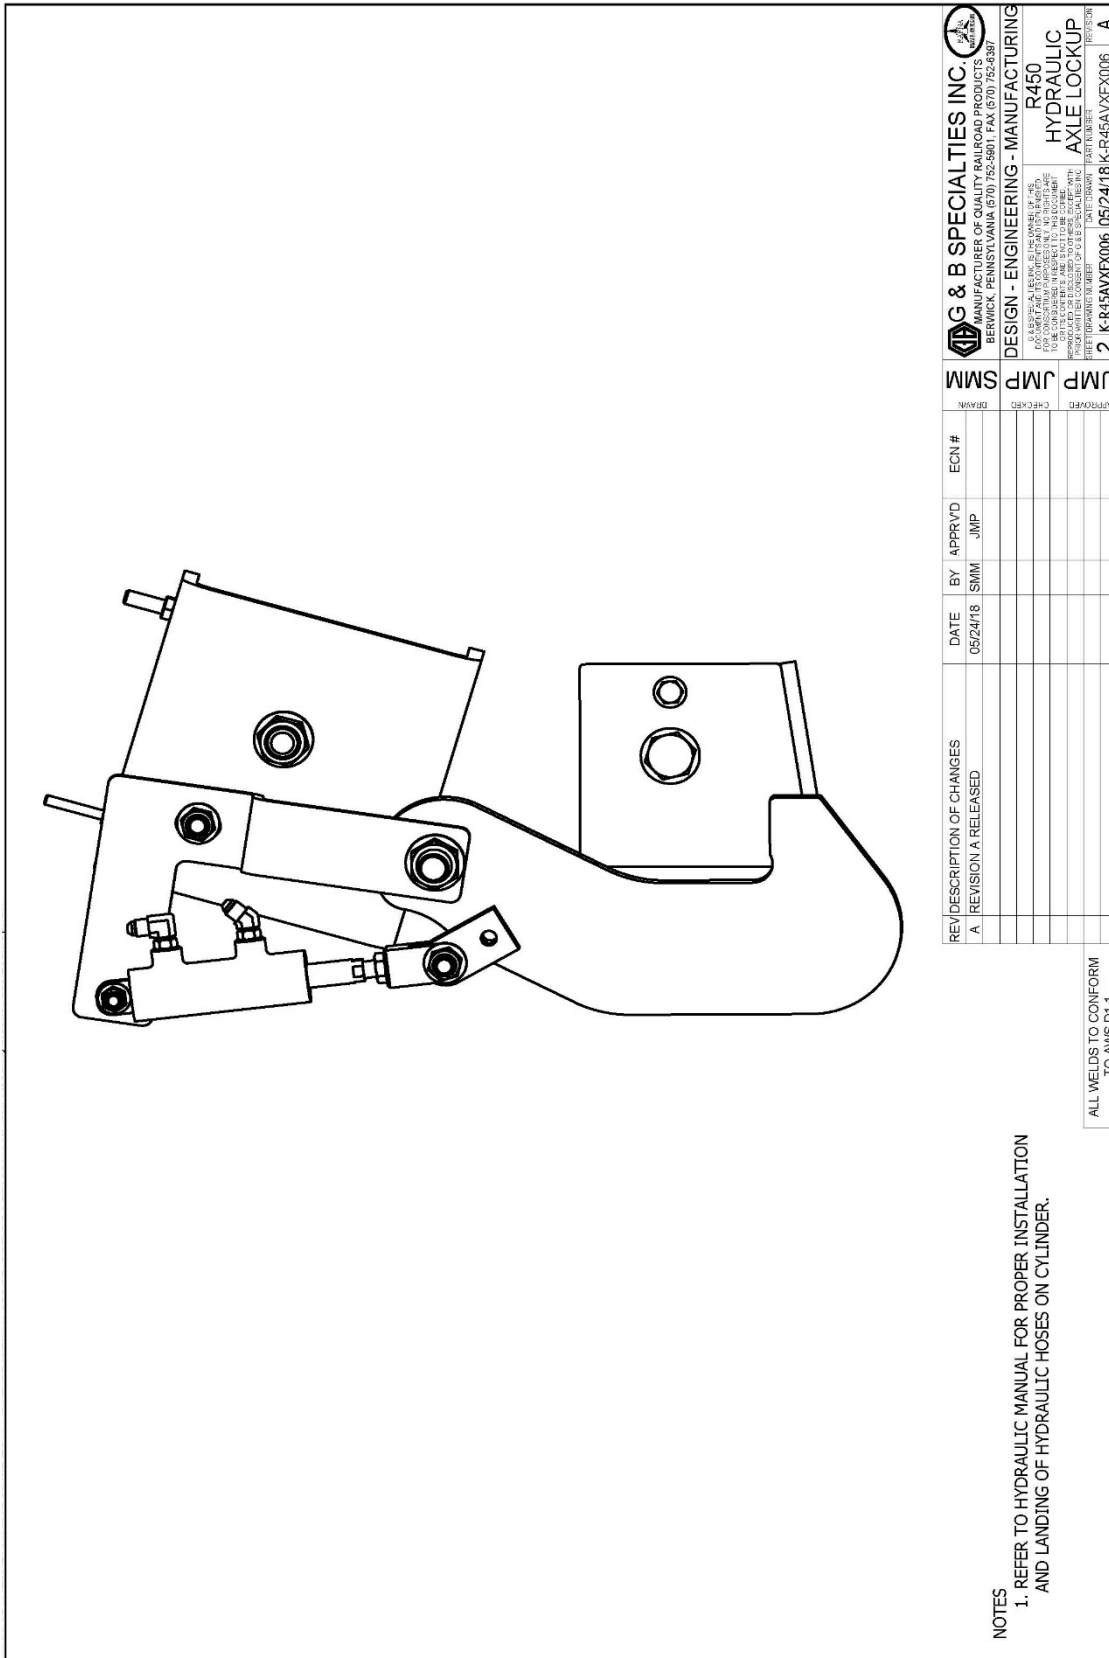

Figure 2
7. Once hook is installed, place the hydraulic cylinder spacer (R-12035) onto the threaded rod of the support bracket along with a 3/8" washer supplied in the hardware kit, and slide the hydraulic cylinder (R-18072C) onto the stud. (The washers act as shims, and more washers may need to be added to ensure cylinder sits properly and doesn't bind. A regular 3/8" nut can be used during this process to allow for the nylock to be used during final installation if chosen to do so.) With the cylinder in its extended position, install the 7/16" jam nut on the end of the cylinder along with the cylinder clevis (R-12040). Adjust clevis so that it mates to the welded tab on the hook. Use the 1/2" x 2 1/4" bolt and hardware provided to secure clevis to the hook. (See Fig. 2) At this point, the cylinder should be fixed to the hook, and the hook hanging vertical. Ensure cylinder is on a straight line with mating to the hook, if not, add washers to the inside of the cylinder on the stud to shim it out until it is straight. Once the cylinder is straight, everything can now be tightened and the nylock nut used to secure the cylinder. (NOTE : cylinder will have a slight rotation on stud during operation, do not over-tighten nut)